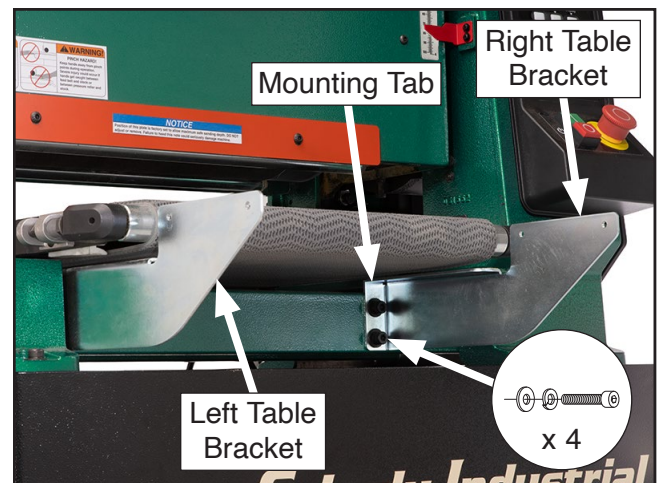

Figure 11. Table brackets attached to infeed end of conveyor base.
1. Attach (1) left and (1) right table bracket to infeed end of conveyor base using (4) M8-1.25 x 20 cap screws w/washers (see **Figure 11**).
Note: Mounting tabs must face inward, as shown in **Figure 11**.